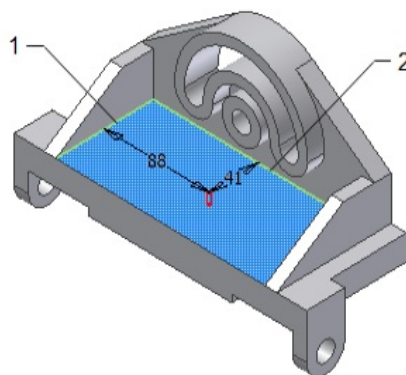

Figure 6-129 The preview of the hole feature
3. Select the top planar face of the base feature. Next, select the edge labeled 1 on the top face of the base feature, refer to Figure 6-129; the mini toolbar is displayed.
5. Similarly, select the edge labeled 2 on the top face of the base feature and modify the value to **41**, refer to Figure 6-129.